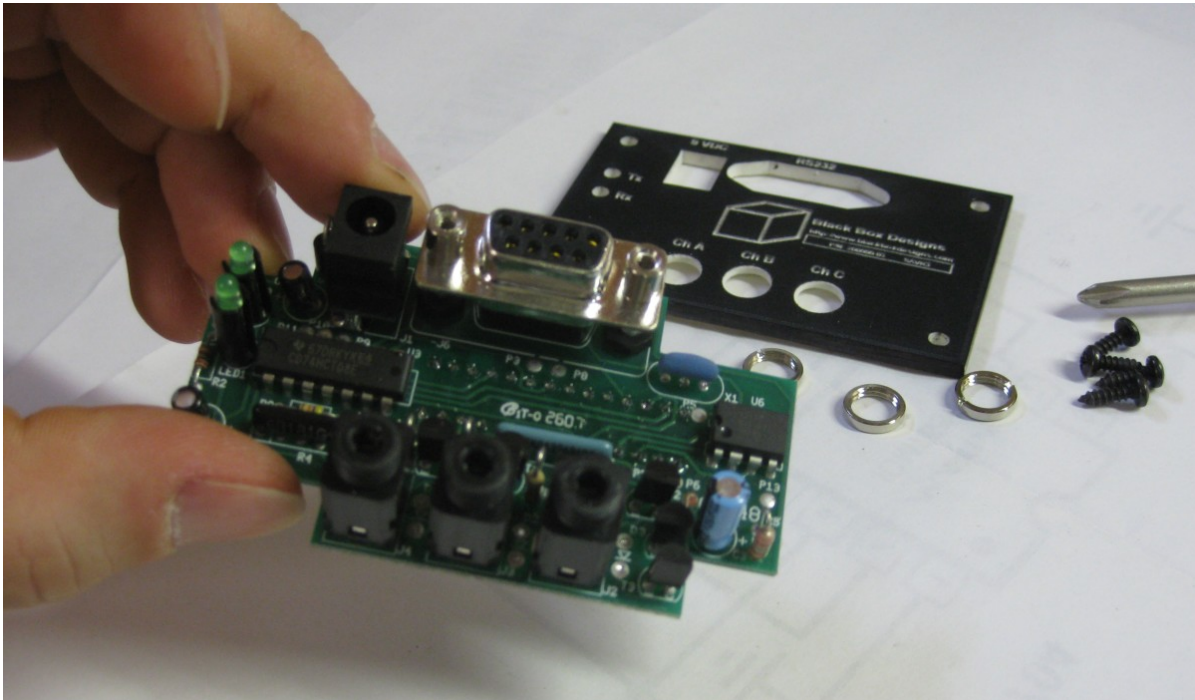

Figure 7: SAVR3 with all TVSD components removed.
9. Remove the TVSD components one leg at a time with a soldering iron and pliers. When finished the SAVR3 will appear as shown in **figure 7** below.